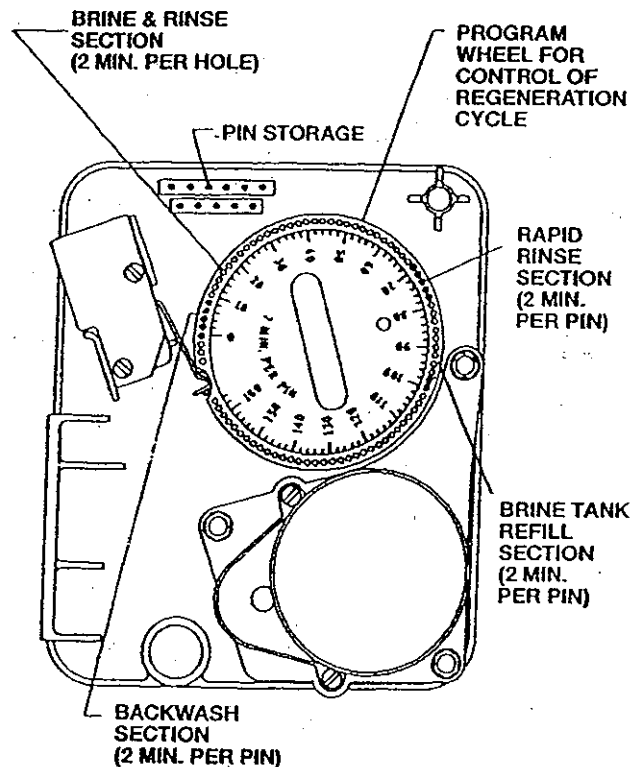

Figure 2
Each control valve position can be manually selected by rotating the **manual regeneration knob** clockwise until first microswitch located on rear of timer door is aligned with each cycle position on the program wheel. (See Figure 2.)
1. Manually index **manual regeneration knob** to **BACKWASH** position and allow water to run to drain for 3 to 4 minutes. (See Figure 2.)
2. Manually index **manual regeneration knob** to **BRINE REFILL** position and allow the brine tank to fill just over the salt grid plate. (See Figure 2.)
3. Manually index **manual regeneration knob** to **BRINE & RINSE** position and allow the control valve to draw water from brine tank until it stops. (See Figure 2.)
4. Manually index **manual regeneration knob** to **SERVICE** position. (See Figure 2.)
5. Manually index **manual regeneration knob** to **BRINE TANK REFILL** position and allow the control valve to automatically fill the brine tank. (See Figure 2.)